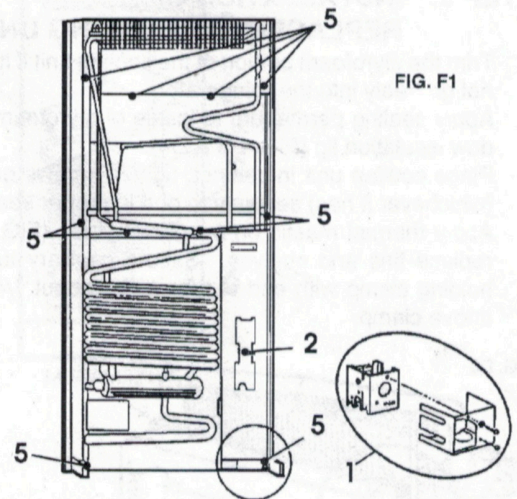

FIG. F1
5. Remove ten (10) screws holding unit from rear (FIG. F1).
5. Install heating elements completely back into the brackets and connect wires (FIG. F1).
1. Remove burner protection cover and remove burner from flue pipe (FIG. F1).
2. Remove heaters from boiler case (FIG. F1).